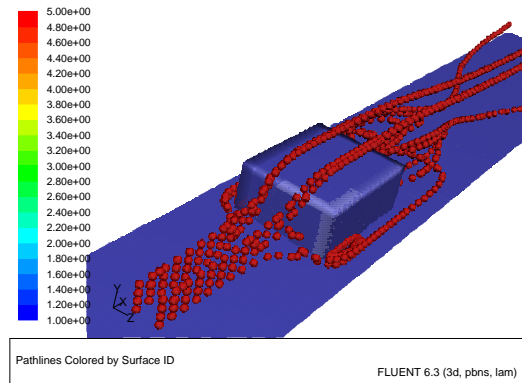

Figure 23.16: Sphere Pathlines Colored by Surface ID
- (j) Click Display and close the Pathlines panel (Figure 23.16).